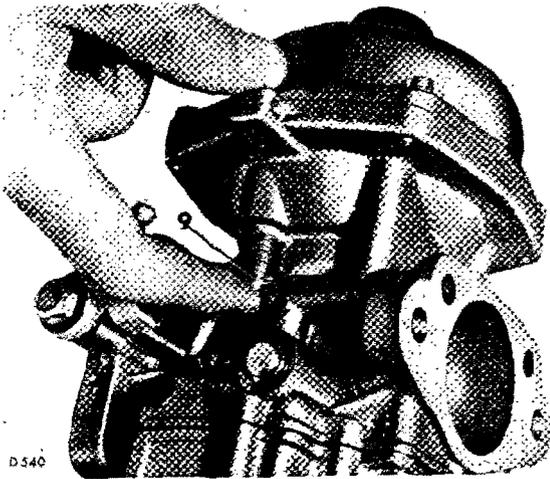

Fig. 17. Checking air valve for freedom with spring-loaded pin (9)
Efficient operation of the carburettor depends upon a freely moving air valve and a correctly centred needle in the jet orifice. The air valve may be checked for freedom by lifting the valve with the spring-loaded pin (9) (Fig. 17). A valve failing to fall freely indicates a sticking valve, or an off-centred jet, and/or the needle (29) fouling the jet orifice. Rectify by removing and cleaning the valve and bore in paraffin, or by re-centralising the needle in the jet.